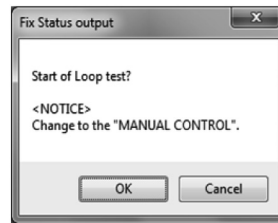

Fig.136
- ③ Click the "Start" button to display a message box (Fig. 136). Click the "OK" button to start "Fix Status output".